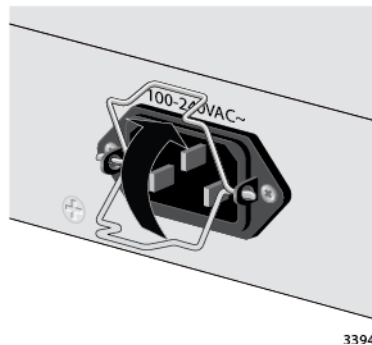

Figure 27. Raising the Retaining Clip
2. Raise the retaining clip. See Figure 27.